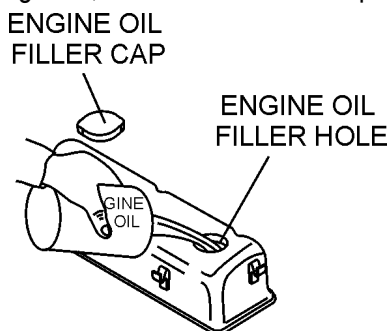

Figure 9. Engine Oil Filler Hole
- If the engine oil level is too low, remove the engine oil filler cap Figure 9, and fill to the correct operating level.